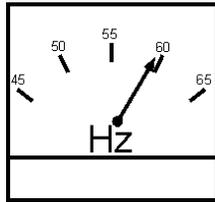

Figure 53. Frequency Meter (Hz)
11. The generator's frequency meter (Figure 53) displays the 60 cycle output frequency in **HERTZ**.